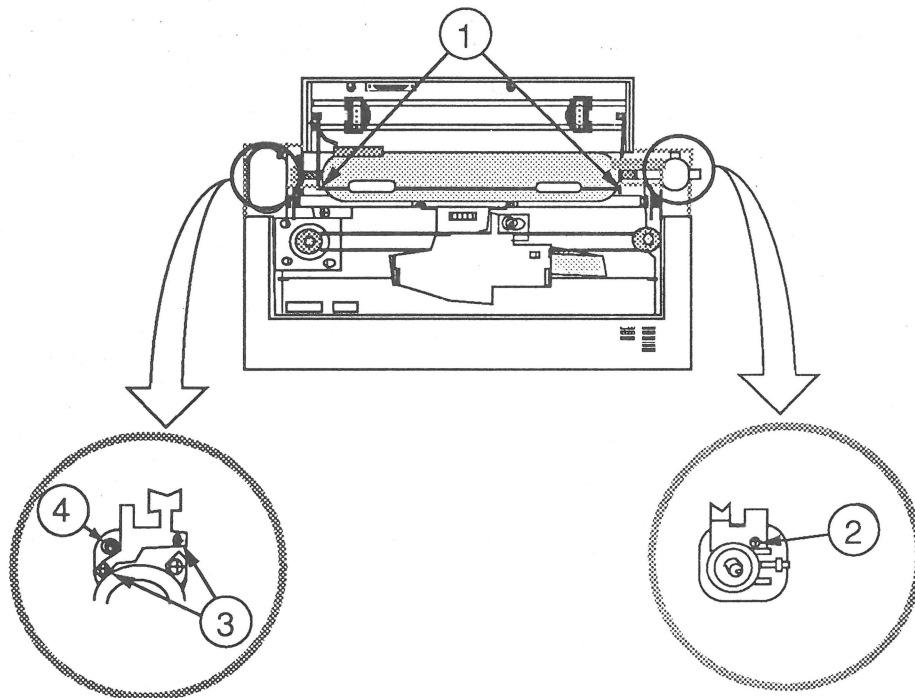

FIGURE 15
18. Remove the screws holding the left and right platen bushing plates (the silver plates at each end of the platen—see Figure 15, #2 and #3) and remove the bushing plates. (You removed the grounding screw (Figure 15, #4) in a preceding step.)
19. Using the needlenose pliers, remove the paper bail roller arm retention springs (Figure 15, #1) and lift the paper bail all the way up and back.